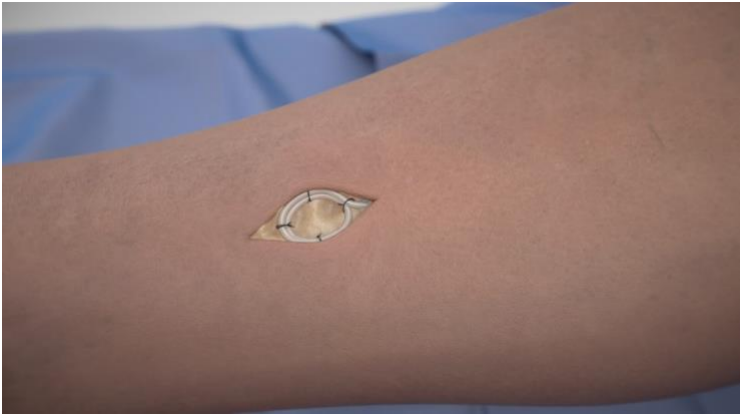

Figure 2
4. Using a non-absorbable suture, suture the receiver coil to the fascia at two locations, ensuring it is flat in the pocket. (Figure 2 & 3)